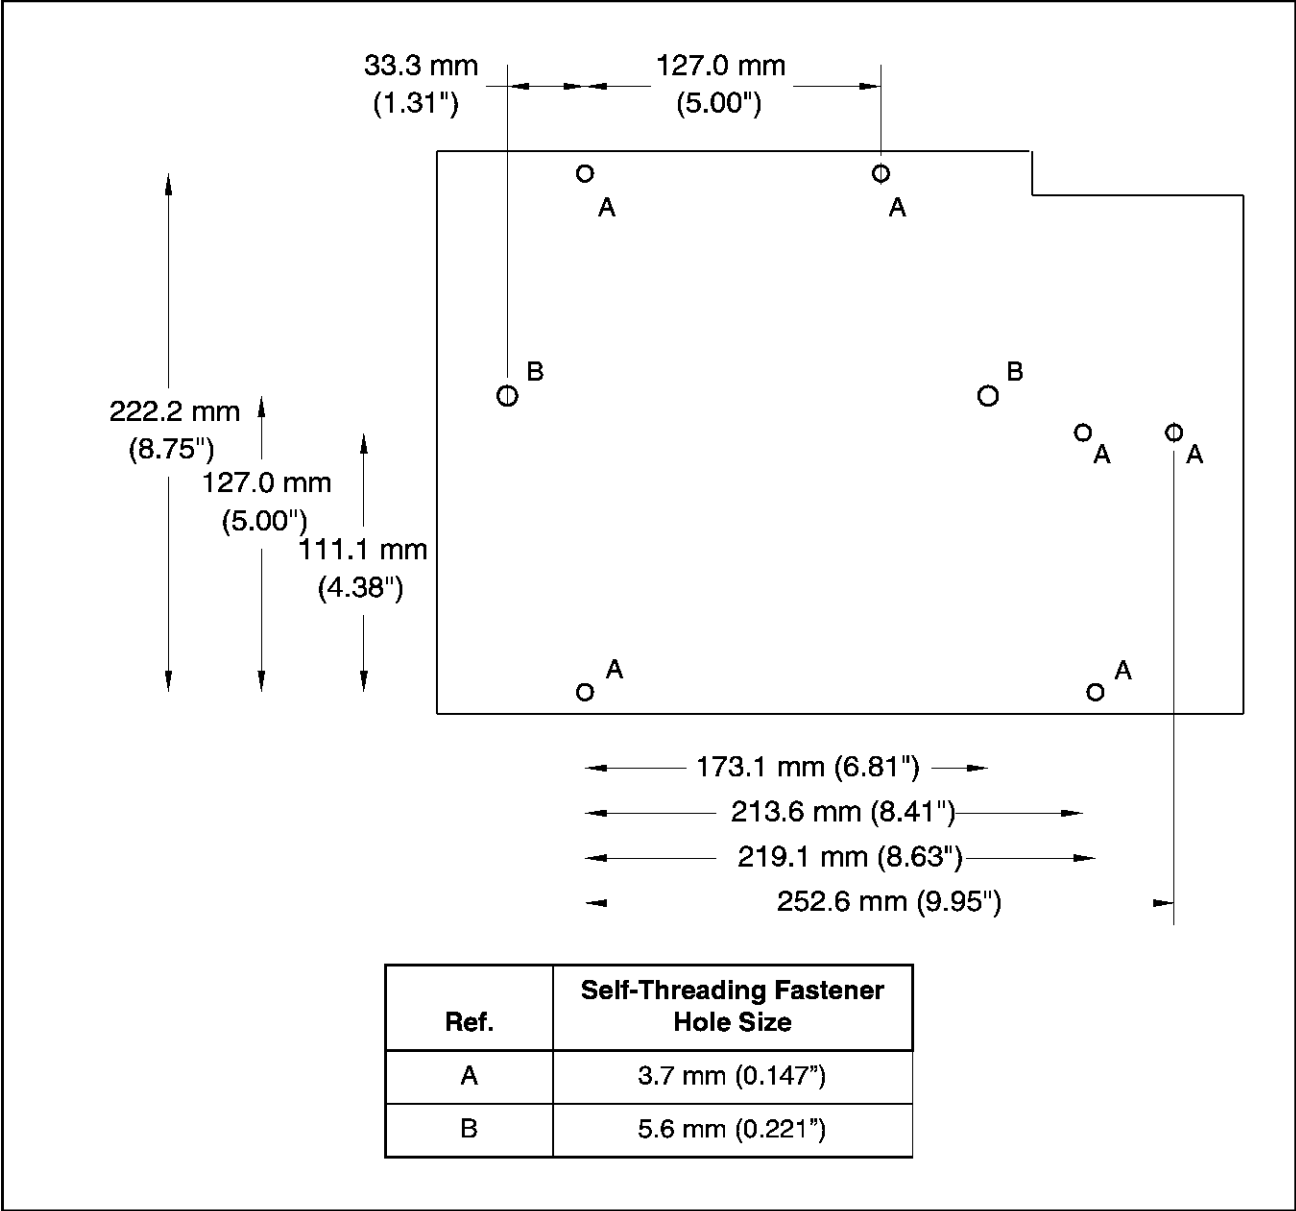

Figure 1 – Mounting Dimensions for the AC Line Filter Kit
Refer to figures 1 and 2 while performing this installation.
Step 2. Refer to figure 1. Using the mounting dimensions as a guide, drill two (2) 0.221" holes (for mounting the capacitor assembly) and six (6) 0.147" holes (for mounting the fuse block and the plastic cover). The kit can be mounted horizontally (as shown in the drawing) or vertically.